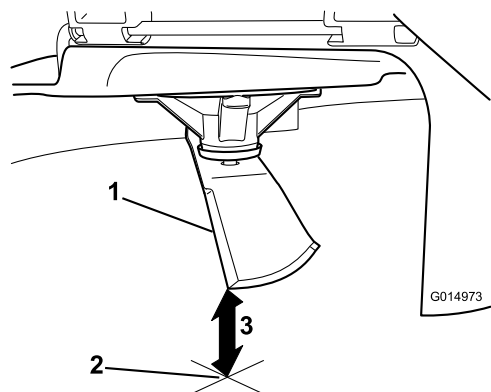

**Figure 60**
5. Measure from the tip of the blade to the flat surface (Figure 60).